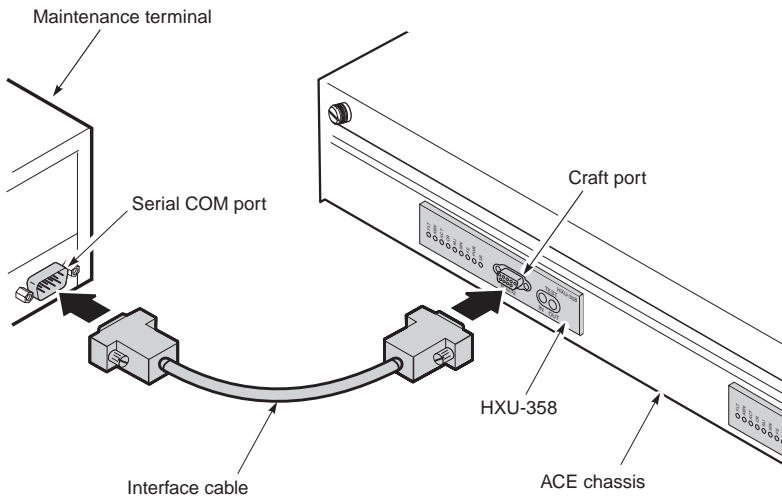

Figure 34. HXU-358 V1.04 Craft Port (Front View)
- 1 Connect a serial data cable from a maintenance terminal (typically a PC running a VT100 emulation program such as HyperTerminal) to the RS-232 craft port located on the front panel of the HXU-358 as shown in Figure 34.